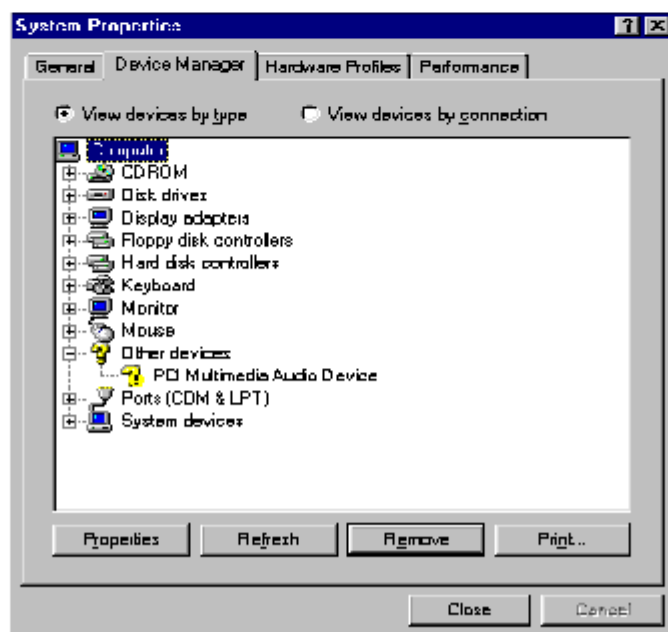

Figure 2-1 The Device Manager of System Properties
- ① Installing the Driver installed into Windows 95/98, you will find a Yellow question mark still exists in the .other Devices. of the .Device Manager. of .system Properties show in Figure 2-1 below.. Please **don't** remove it and then follow the steps below.